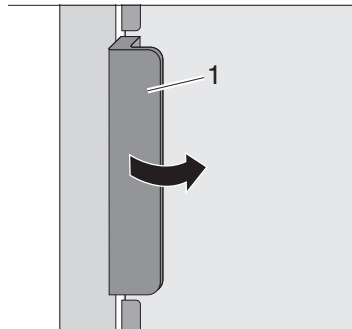
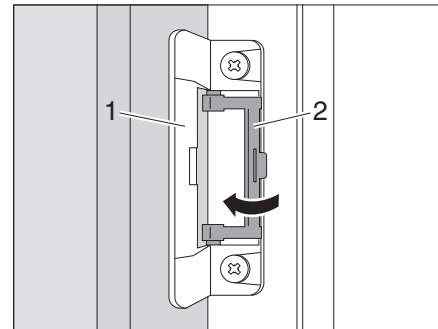

Fig. 344 Opening the refrigerator door
Fig. 345 Locking the ventilation position
- Open the refrigerator door at the handle (Fig. 344,1). The locking mechanism (Fig. 345,1) is released automatically.
- Fold open the latch (Fig. 345,2).